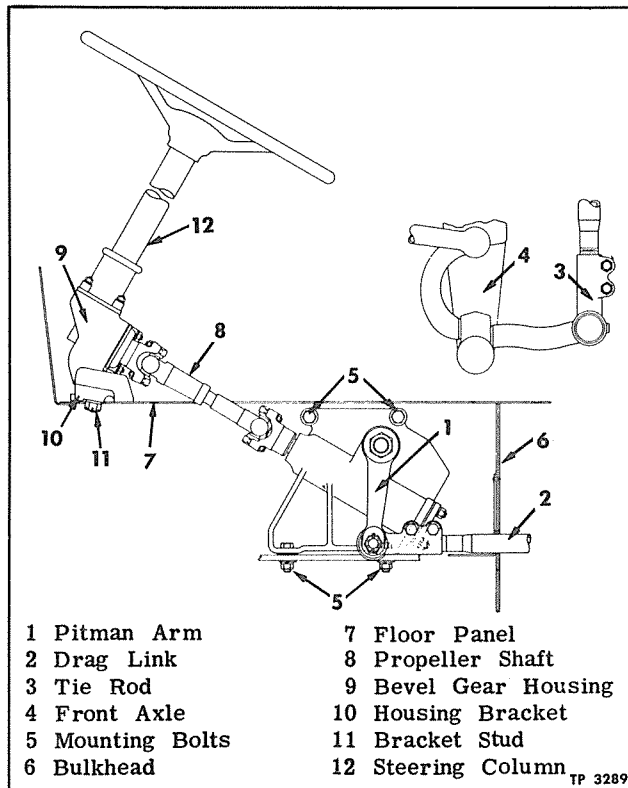

Figure 1—Steering Gear Installation Views
Steering gear and drag link installation views are shown in figure 1. Steering gear assembly is attached to vehicle understructure by mounting bolts which hold the steering gear housing in place, and is accessible for adjustments or replacement through tool compartment door.
11. Remove four steering gear housing to vehicle understructure attaching bolts (5, fig. 1), then remove housing through tool compartment door.